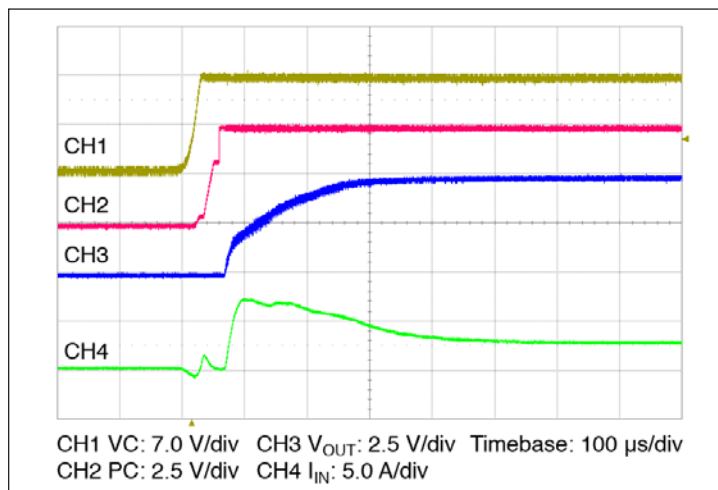

Figure 14 — Start up from application of VC; V_{IN} pre-applied
- Stand Alone Operation (VC applied after V_{IN}): In this case the module output will begin to rise upon the application of the VC voltage (See Figure 14). The Adaptive Soft Start circuit (See Section 10) may vary the output rate of rise in order to limit the inrush current to its maximum level. When starting into high capacitance, or a short, the output current will be limited for a maximum of 900 µsec. After this period, the adaptive soft start circuit will time out and the module may shut down. No restart will be attempted until VC is re-applied, or PC is toggled. The maximum output capacitance is limited to 2000 µF in this mode of operation to ensure a successful start.